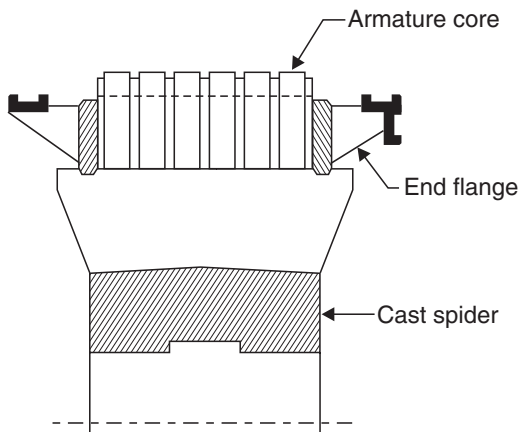

Fig. 8. Clamping of an armature core.
- The armature laminations of *medium size machines* (having more than four poles) are built on a spider. The spider may be fabricated. Laminations up to a diameter of about 100 cm are punched in one piece and are directly keyed on the spider (see Fig. 8).